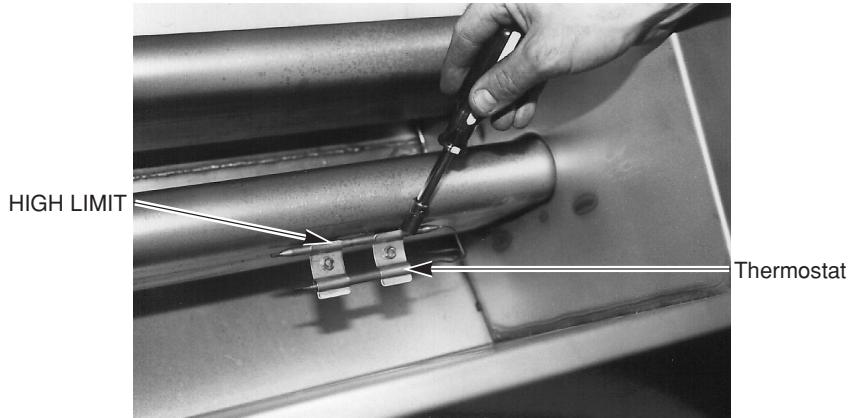

Fig. 23
5. With a  $\frac{1}{4}$ " socket, from inside the tank disengage the thermostat bulb from the tank mounting brackets. (Fig. 23)
4. From inside cooker tank with a  $\frac{1}{4}$ " socket, remove (2) screws and the bracketing piece holding the limit and thermostat bulbs to the tank. (See Fig. 23)